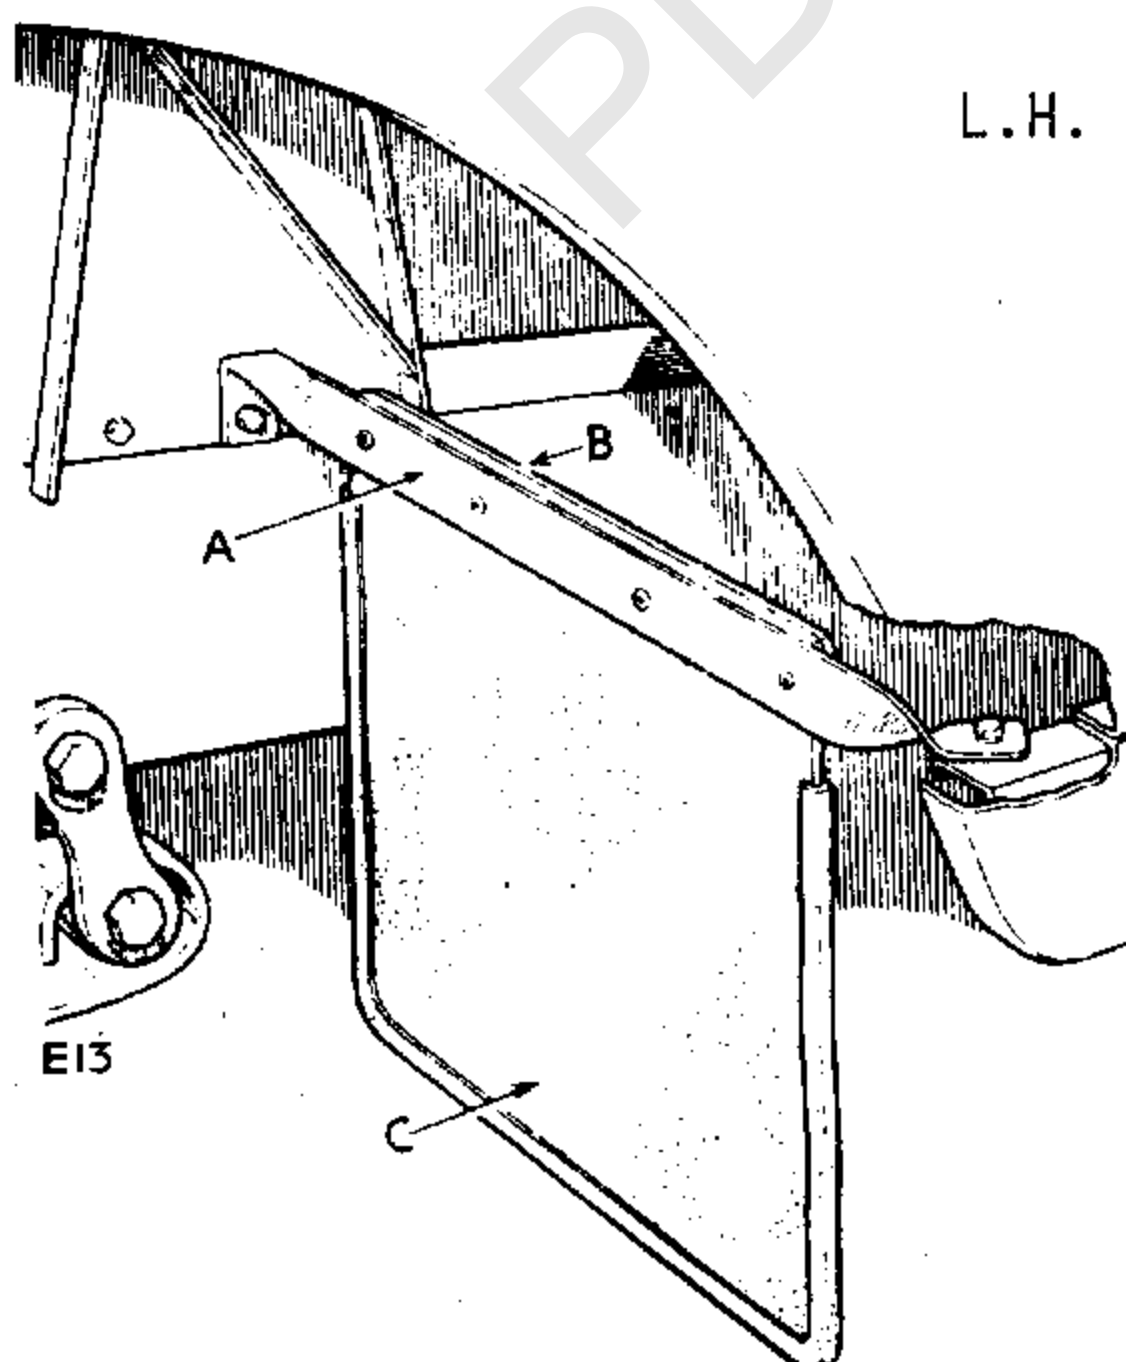

Fig. 1. Front mudflap in position
3. Secure the right- and left-hand mudflap assemblies to the side mudwing and chassis side as shown in Fig.1.